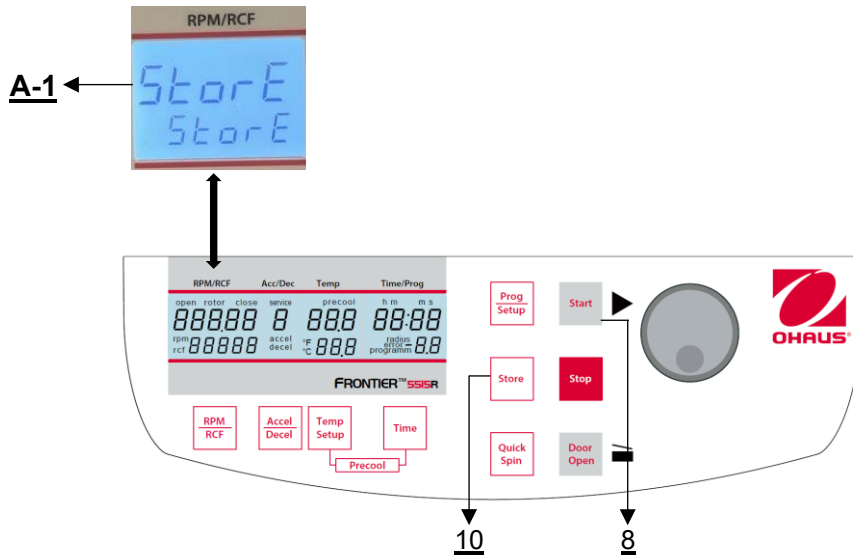

Figure 30
All changed settings must be confirmed by the key **"Start"**(8) or **"Store"** (10). The word **"Store"** appears in the display **"RPM | RCF"** (A-1) – Only then the pre-selections are valid (see **Figure 30**). After you have stored the settings, you can change to normal program mode again by switching off the centrifuge for a short while.